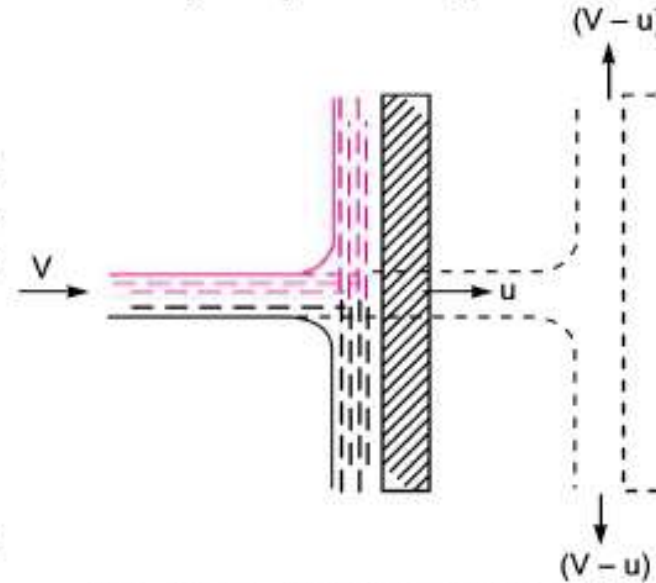

Fig. 17.10 Jet striking a flat vertical moving plate.
17.4.1 Force on Flat Vertical Plate Moving in the Direction of Jet. Fig. 17.10 shows a jet of water striking a flat vertical plate moving with a uniform velocity away from the jet.